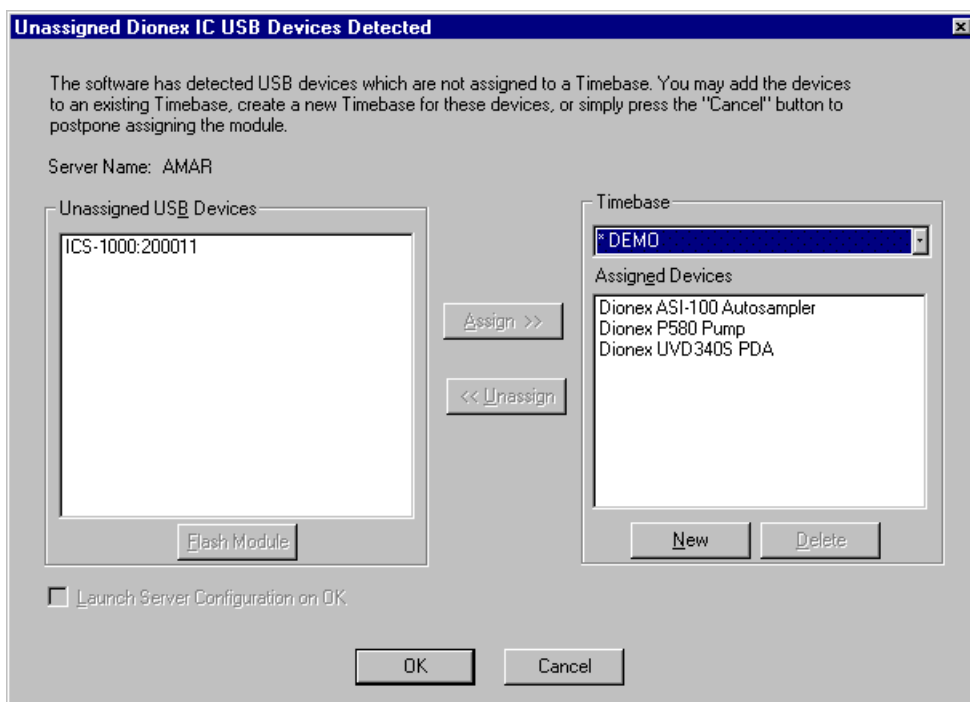

Figure 10. ICS-1000 Unassigned to Timebase
3. The Unassigned USB Devices dialog box appears (see Figure 10).